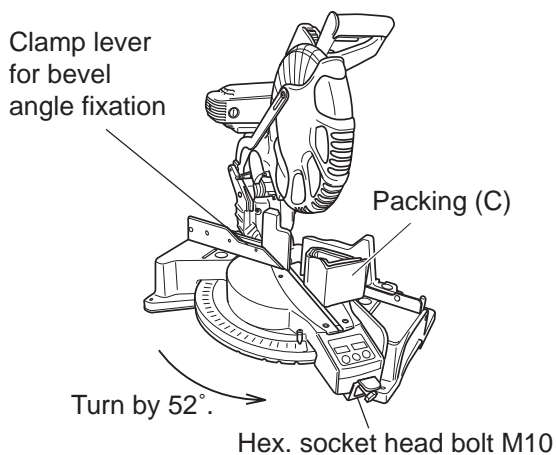

Fig. 38
- (i) Place packing (C) under the gear case and lower the head section. Pressing on packing (C), insert the stopper pin of the gear case to secure the head section. (At this time, check that the clamp lever for bevel angle fixation is securely locked.)
(3) Mounting packing (D)
- (i) Fold packing (D) in two at the center and insert it between the gear case and the protective cover.
(4) Mounting packing (E)
- (i) Insert packing (E) between sub fence (B) and the gear case.
(5) Mounting packings (A) and (B)
- (ii) Place packing (B) aligning the hole of packing (B) with the housing.
- (iii) Place packing (A) in the carton box.
(6) Mounting upper packing
- (i) Place the upper packing on packings (A) and (B). Close the carton box. See Figs. 38, 39 and 40 for detail.